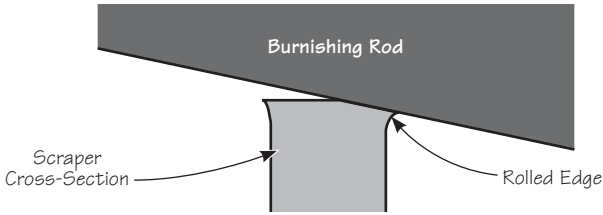

Figure 3: Roll the scraper edges.
4. Re-set the dial to the hook angle you want, and take one or more passes to roll the scraper edges. Practice soon tells you how many passes will give you a good edge (**Figure 3**).